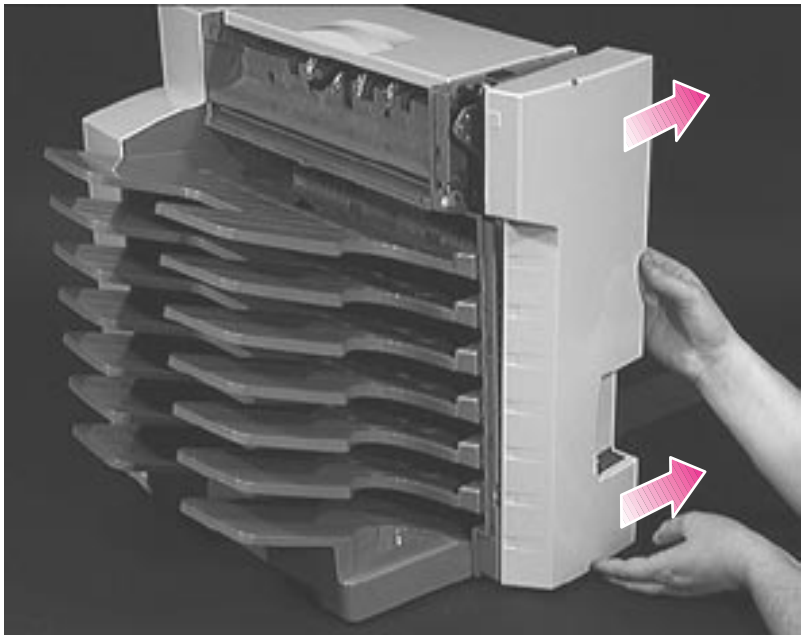

Figure 6-92 Front cover (3 of 3)
- 4 To clear the handle, rotate the Front Cover to the right, and remove it as shown in figure 6-92.